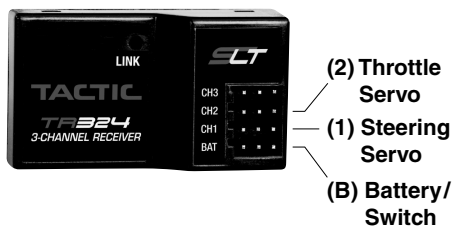

Figure 3
**Servos:** See the SERVOS AND ACCESSORIES section at the end of this manual for a full list of optional servos. CENTER THE TRIM DIALS on the Tx. Mount the servos inside the model and connect the linkages to the servo using an appropriate length servo arm. Make sure all mechanical linkages are free of obstructions and can move smoothly. Connect the servos to the receiver as shown in Figure 3. Turn the transmitter’s trim dials to finely adjust the servo’s center point as needed to match the installation.